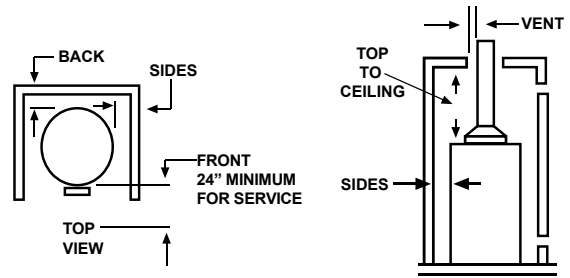

FIGURE 11.
- Figure 11 may be used as a reference guide to locate the specific clearance locations. A minimum of 24 inches of front clearance should be provided for inspection and service.